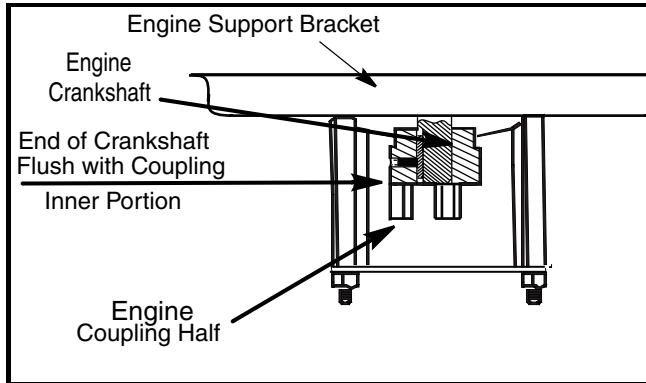

FIGURE 4
28. Slide the engine coupling half and key up onto the engine crankshaft until the end of the crankshaft and key are flush with the inner portion of the engine coupling half. (Check to ensure that there is space between the end of the engine support bracket and coupling half). Tighten engine coupling half to the crankshaft. Torque set screw to 78 in-lbs. See Figure 4.